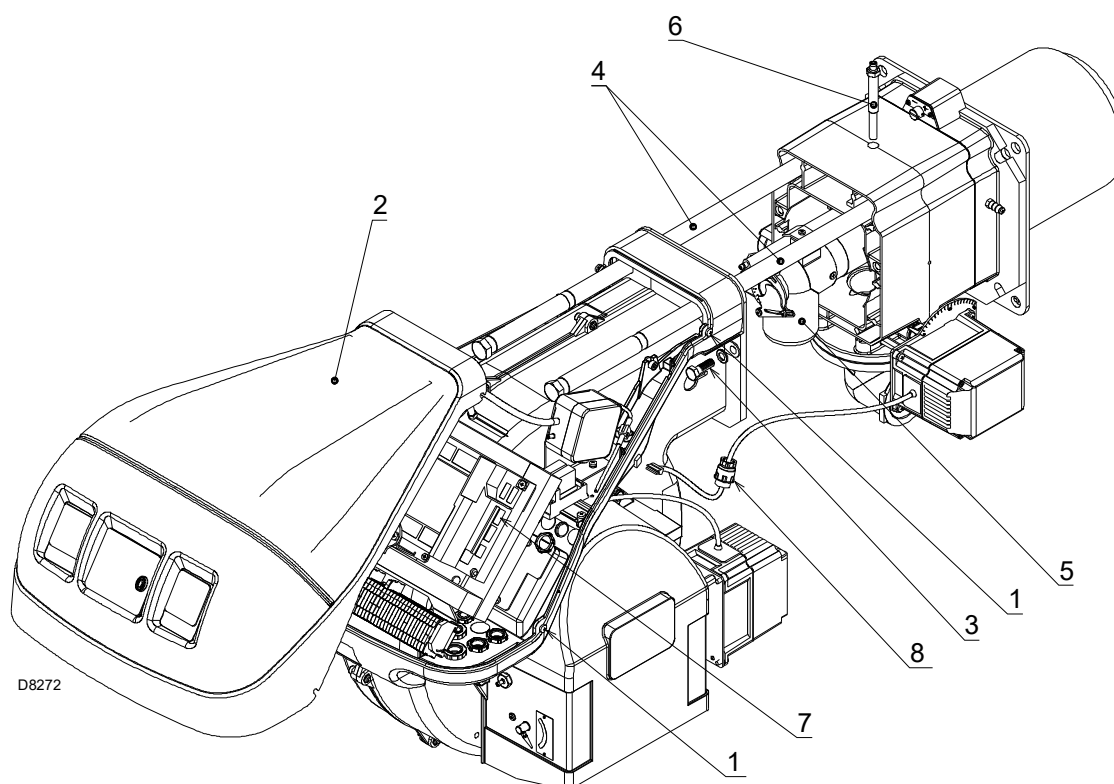

Fig. 37
- Loosen the 4 screws 1)(Fig. 37) and remove the hood 2).
- Connect the plug of the servomotor 7)(Fig. 37) and tighten the grommet 8).